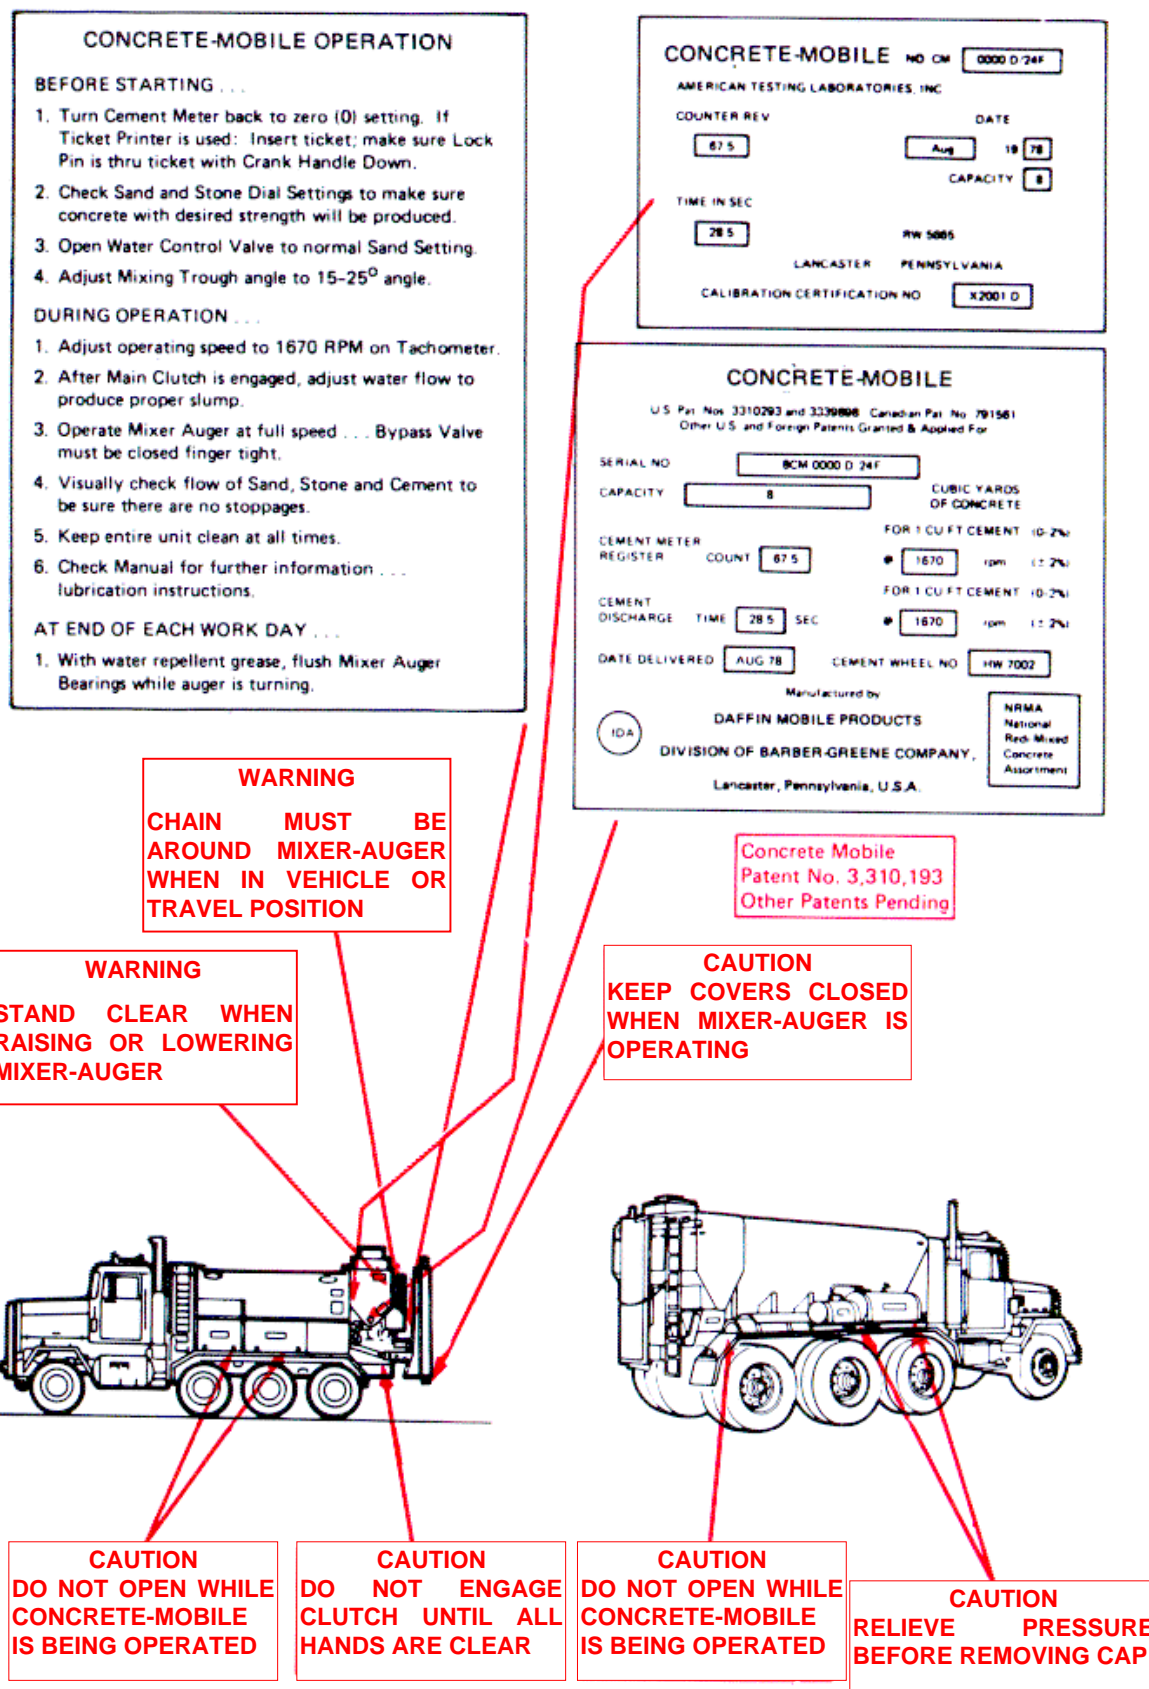

Figure 1-3. Instruction and Data Plates
b. *Instruction and Data Plates.* Figure 1-3 identifies mixer instruction and data plates
See Fig 1-3 for location of plates on vehicle.